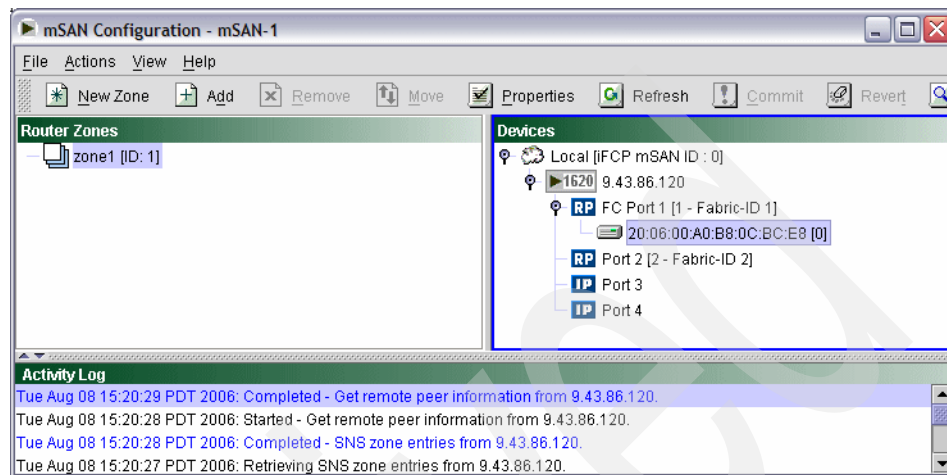

Figure 17-57 Imported storage device in mSAN Configuration window
9. Close the Fabric Configuration window and click **Refresh** in the mSAN Configuration window. The imported device appears in the Devices panel, as shown in Figure 17-57.